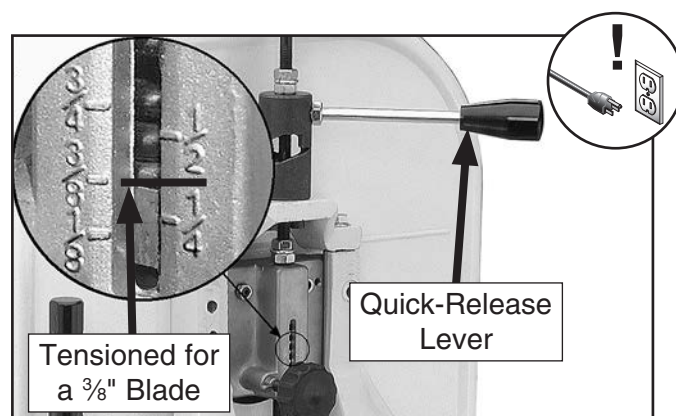

Figure 24. Example of tension applied for a $\frac{3}{8}$ " blade.
3. Move the blade tension quick-release lever all the way right (as viewed from the rear of the machine) to apply tension to the blade (see **Figure 24**).
4. Use the tension knob on top of the bandsaw to bring the upper edge of the indicator block to the appropriate blade tension scale mark for the blade width (see **Figure 24**).